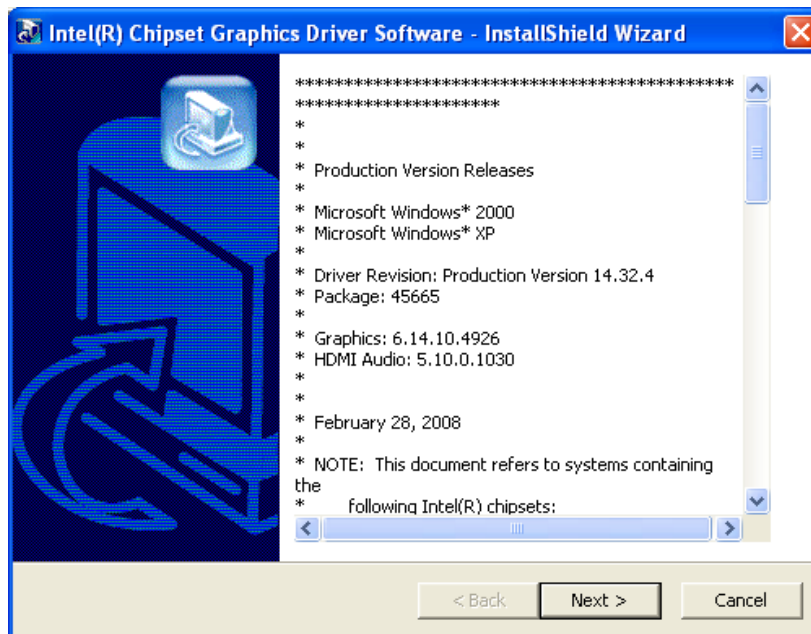

Figure 6-10: VGA Driver Read Me File
Step 3: The VGA Read Me file in **Figure 6-10** appears.